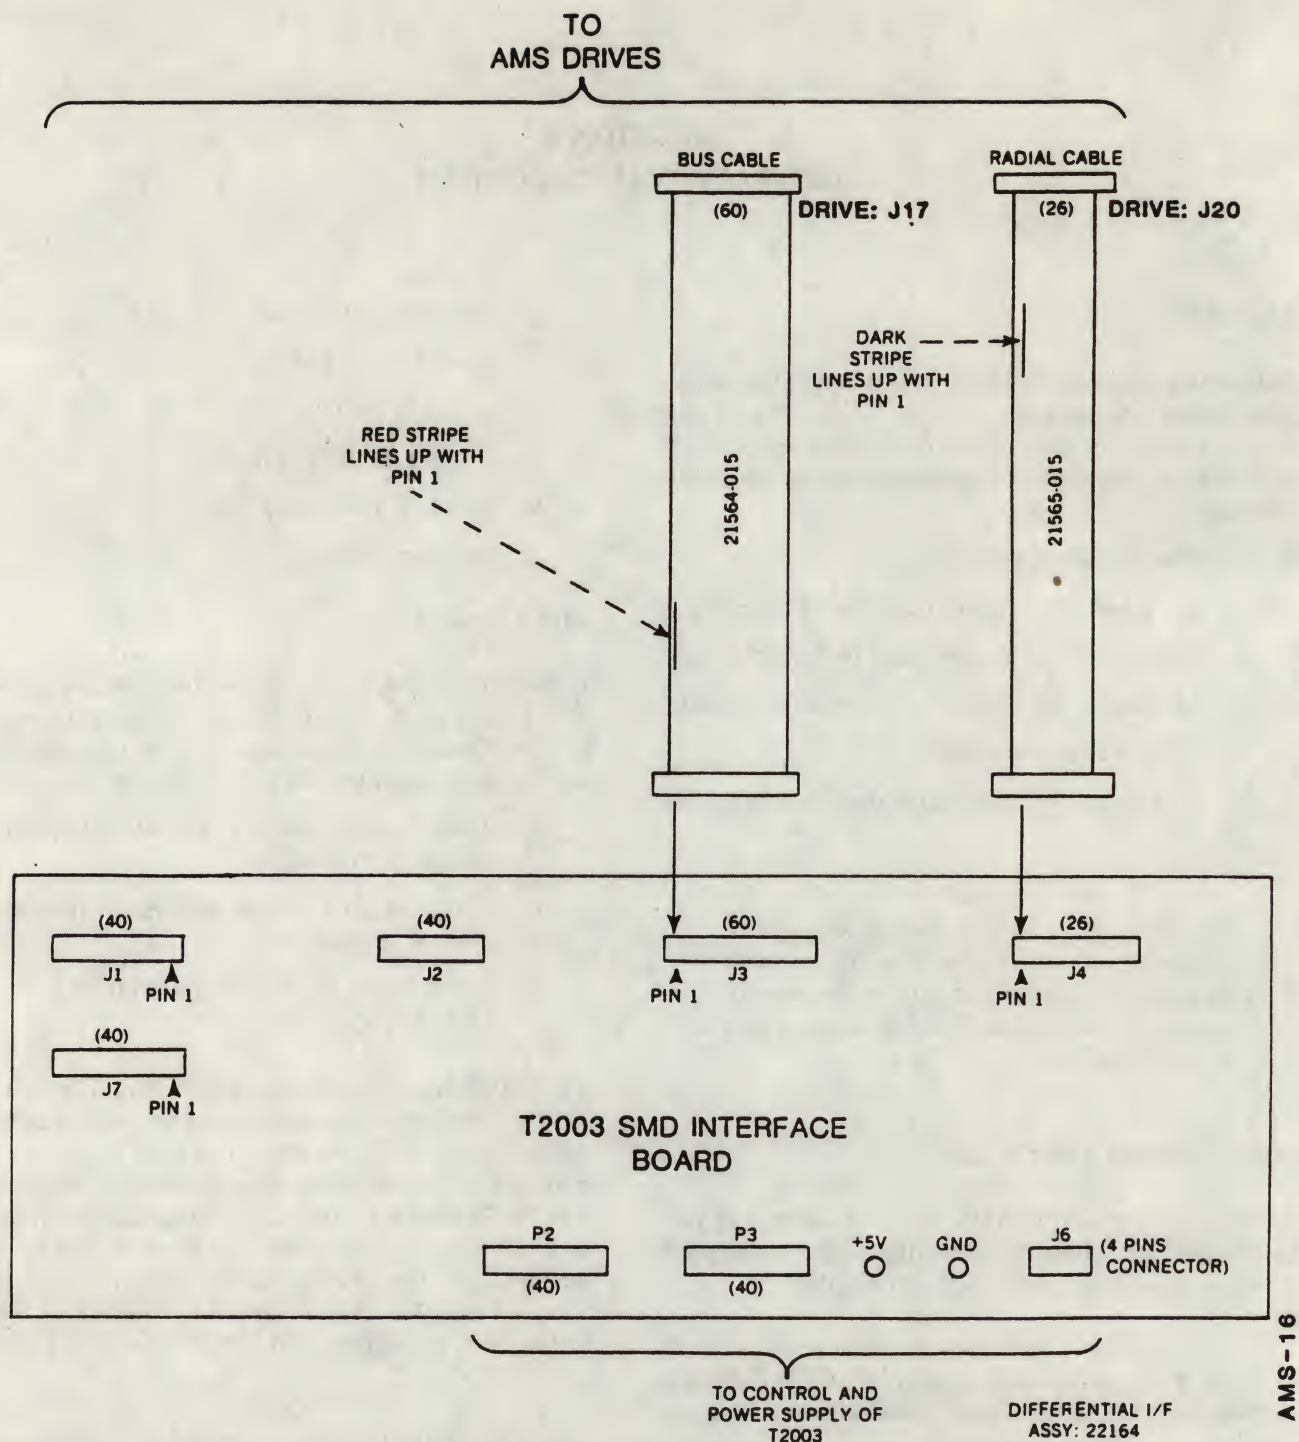

Figure 4-1. T2003 Smart Exerciser Cabling
The T2003 Smart Exerciser can perform all operational checks necessary to completely test the unit. Testing is performed in the "ONLINE" mode by connecting the exerciser to the drive via the system cable connectors. The T2003 cannot exercise the dual access feature of the disk drive. It must be connected to either Access A or Access B and the appropriate front panel access switch must be enabled. See Figure 4-1. The T2003 Smart Exerciser Technical Manual part number is 76271-20X.
- b. T2003 Smart Exerciser to be used to test the drive. Connect exerciser cables as shown in Figure 4-1.